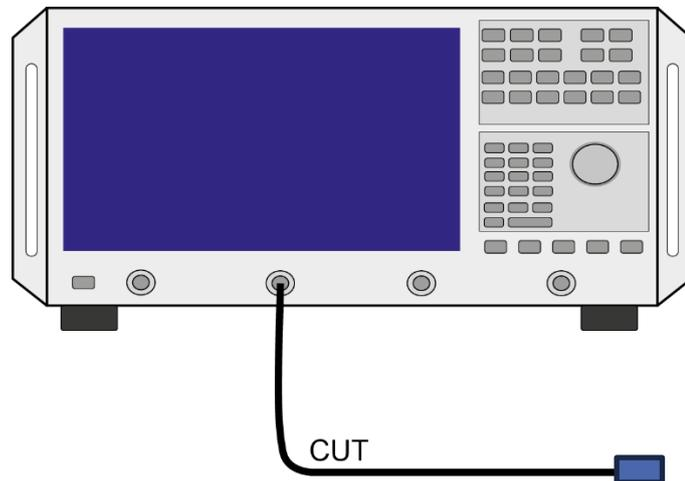

Figure 2 – Return loss – Cable under test
- **Connection:** Connect one end of the cable under test (CUT) to the analyzer test port (Figure 1). The other end must be terminated with a matched load (usually 50 ohms) to absorb the signal rather than reflect it. This simulates an ideal matched system. It is possible to measure the Return loss of a entire passive rf system using the setup in Figure 2.